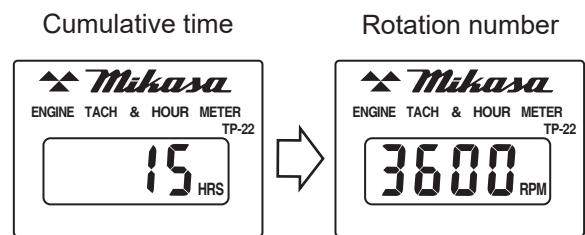

Fig.13
- 9 “Rotation number” is displayed during operation.(Fig.13)